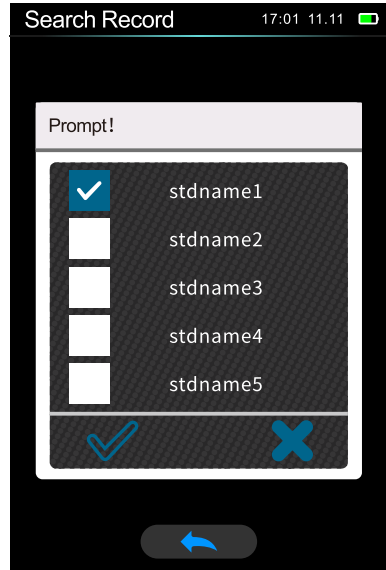

Figure25 List of searched records
- 3、 Click "by standard name", pops up the search name interface, as shown in Figure 25. Otherwise, it will prompt "This record does not exist" and return to the search record menu.